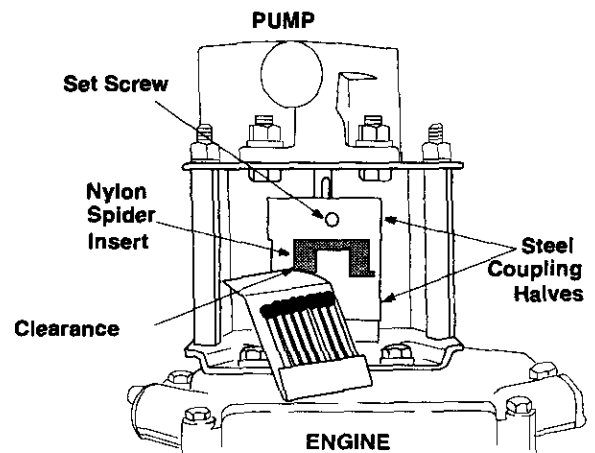

Figure 18
- Set .035 to .060 inch clearance between the nylon "spider" and the engine coupling half by sliding a matchbox cover between the nylon "spider" and the engine coupling half and moving pump coupling half as needed. See Figure 18.